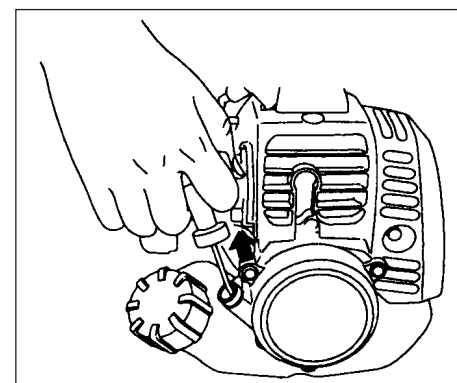

Fig. 2-3B
4. Pull recoil starter briskly, taking care to keep the handle in your grasp and not allowing it to snap back. (Fig. 2-3B)